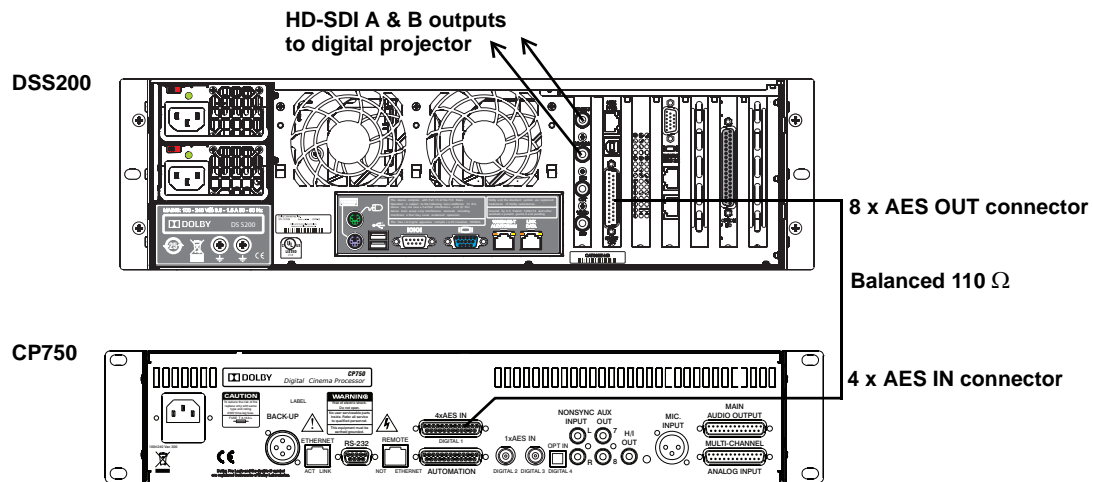

Figure 3-12 Connecting the DSS200 A/V Outputs (CP750 Configuration)
- Connect the DSS200's **8 x AES OUT** connector to the CP750 **4 x AES IN** connector using the special cable (supplied with the optional Cat. No. 899-DMA8 Installation Kit), as shown in Figure 3-12. The Dolby Part Number for this cable is 8305580.